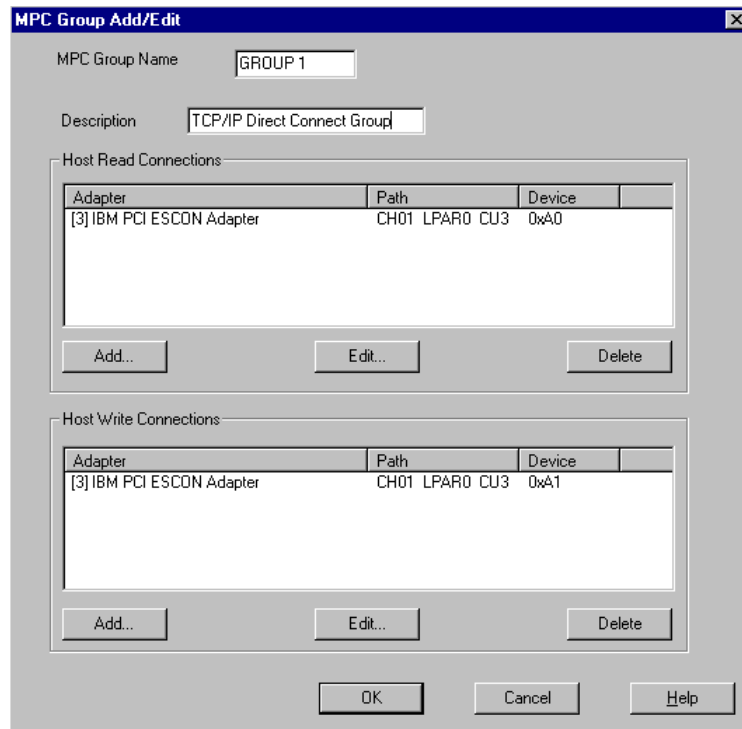
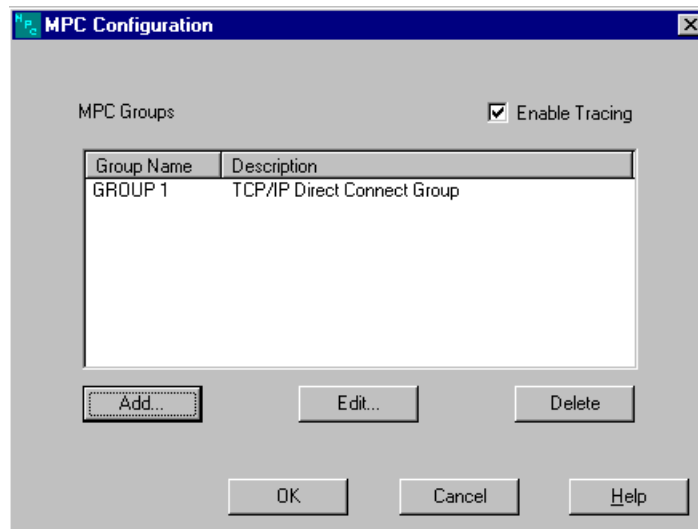

Figure 5-10. Completed MPC Group Definition
Figure 5-11. MPC Configuration with New Group
5. Once both Read and Write connections have been defined (Figure 5-10), click **OK** to define the group and return to the MPC Configuration screen (Figure 5-11) which now shows the new MPC Group.